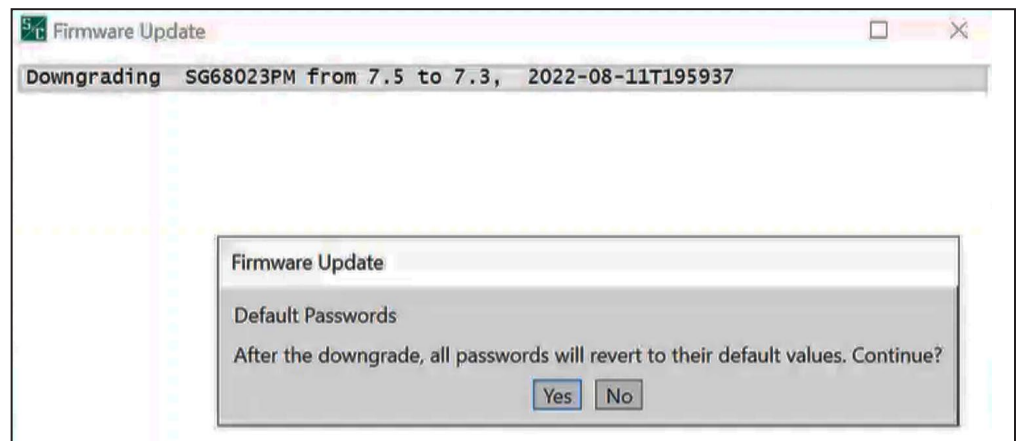

Figure 36. The Default Passwords downgrade message.
STEP 18. When downgrading from software version 7.3.100 or later to a software release earlier than 7.3.100, a dialog box will appear about the passwords being reverted to defaults during the downgrade process. Click on the **Yes** button to proceed with the downgrade. Clicking on the **No** button will stop the downgrade process. See Figure 36.